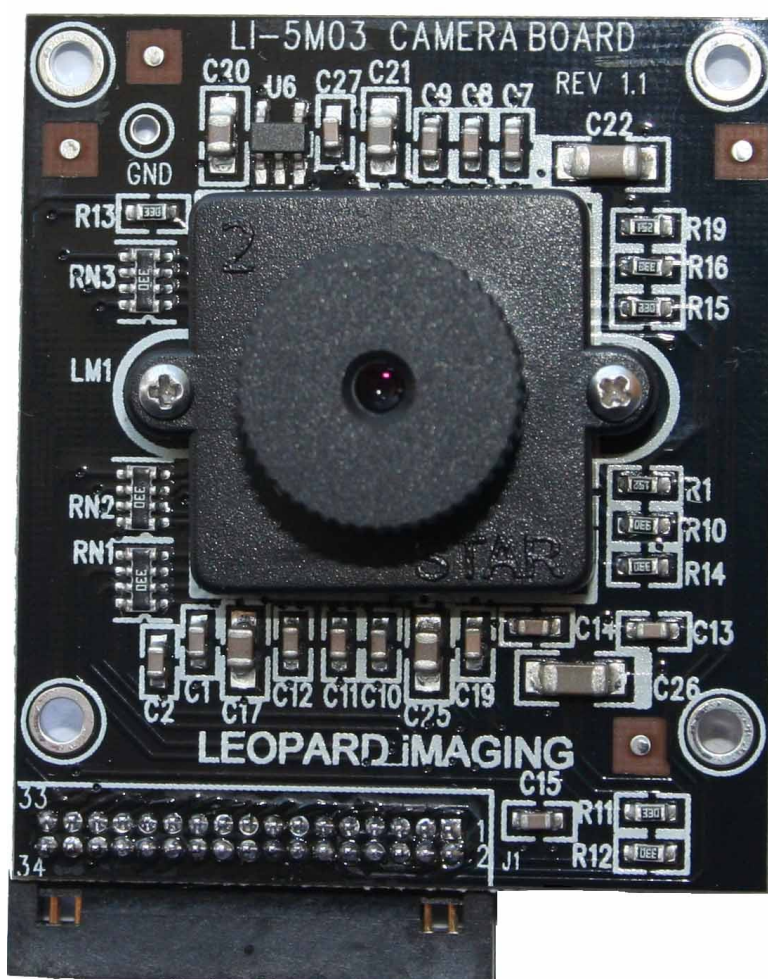

Figure 12. LI-5M03
1.2.5.6 5 Mega-pixel Camera Board, see Figure 12